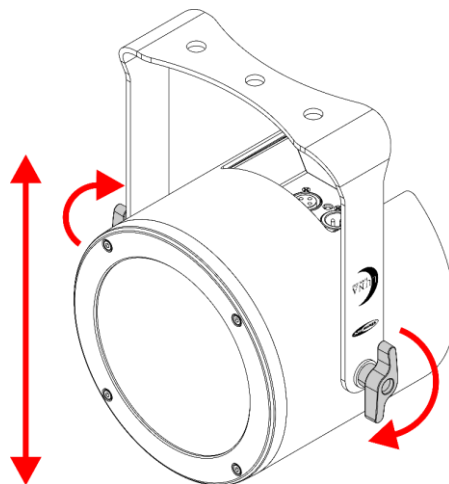

Fig. 08
- 01) Turn the **adjustment screws (03)** counterclockwise to release them.
- 02) Tilt the device at the desired angle (see Fig. 08).
- 03) Turn the **adjustment screws (03)** clockwise to tighten them. Make sure that the device cannot move freely after the **adjustment screws (03)** are tightened.